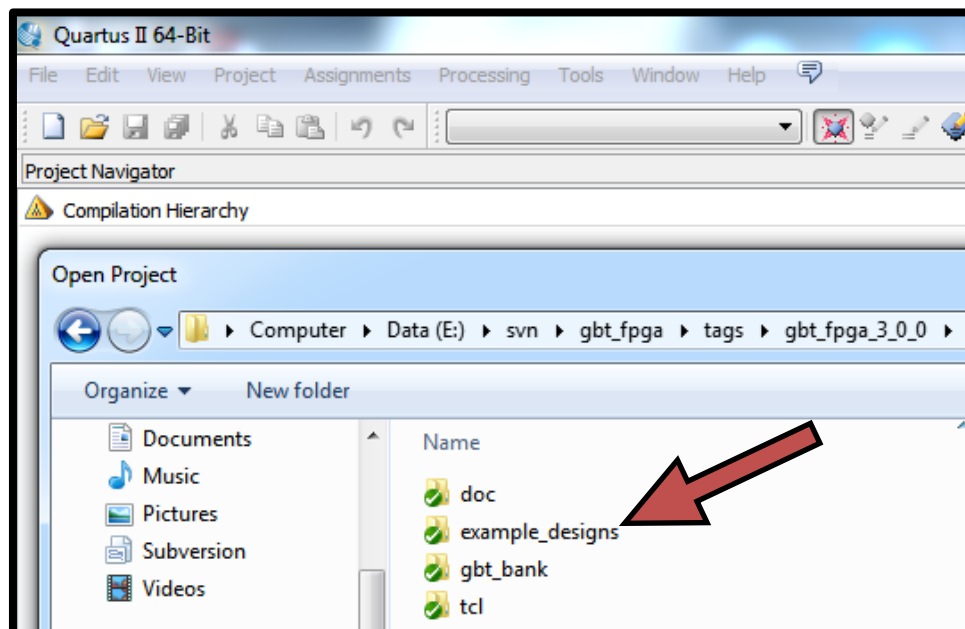

Figure 36: Root folder of the GBT-FPGA source files from the SVN repository
3. Go to the folder where the GBT-FPGA Core source files were downloaded from the GBT-FPGA SVN repository (see Figure 36).